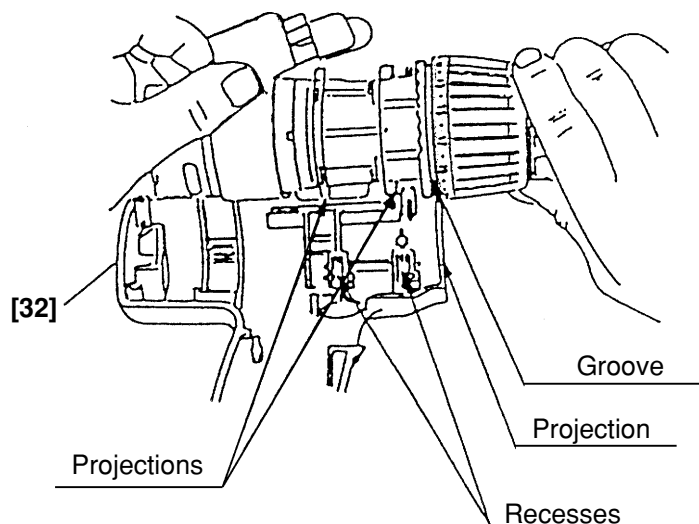

Fig. 16
(b) Install the assembly reassembled in step (3) into Housing (A). Note that the projections on the Front Case [9] and the Motor Spacer [25] are engaged in the recesses in Housing (A), and the projection on Housing (A) is engaged in the groove of the Cap [4]. (See Fig. 16.)